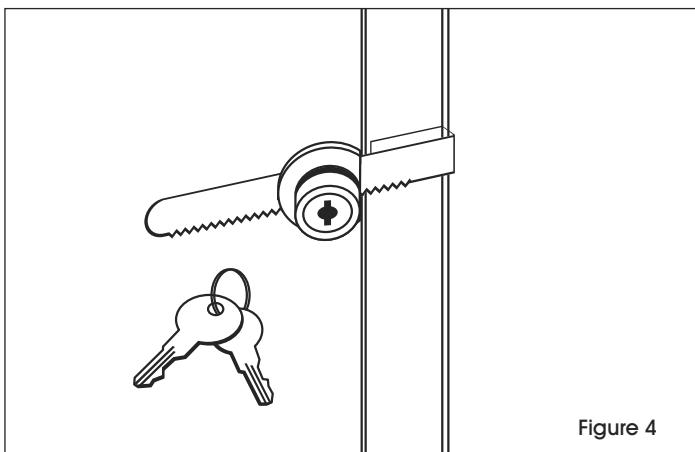

Figure 4
5. Attach the weather resistant lock onto the back of the plastic sheet. Slide the lock over until it is flush against the other plastic sheet, then lock center with key provided. (See Figure 4)